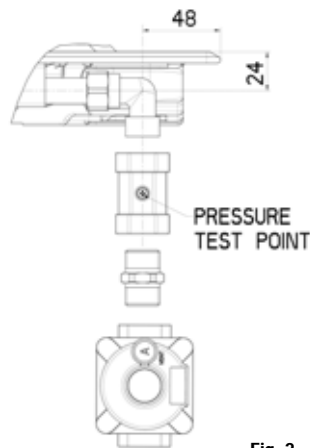

Fig. 2
7. For gas inlet position of appliance refer Fig. 2 for NG and fig.3 for ULPG. After installing the gas supply and making all connections check thoroughly for possible leaks. Turn all control knobs on the unit to "OFF" position. Open the valve on the gas supply. Using a soap and water solution check each gas connection one at a time, by brushing the solution over connection. Presence of bubbles will indicate a leak. Tighten the fitting and re-check for leaks. If it is not possible to correct the leak, replace fitting. Under no circumstance use matches or flame for checking leaks.